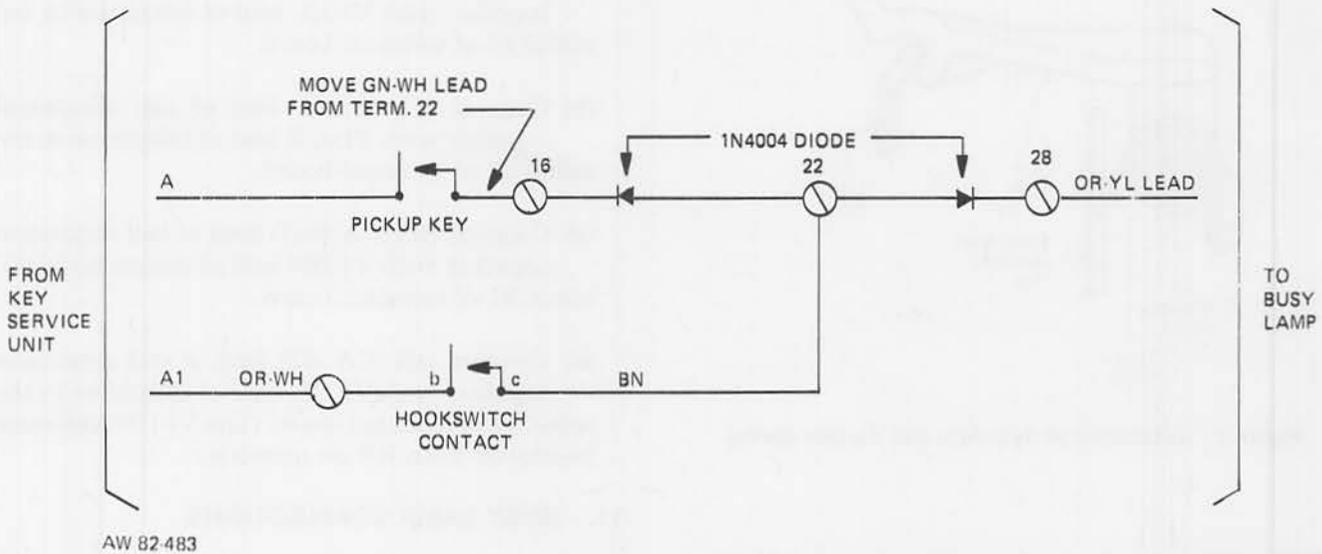

Figure 4: Busy Lamp Connections For 20-Button Telephones with Feature Codes 42 and 46
**11.01** Busy lamp connections may vary depending on the type of key system being used. Modifications for the 20-button desk telephones with feature codes 42 and 46 should be as follows: (Refer to Figure 4.)
- (b) Connect one 1N4004 diode between terminals 22 and 16 on the terminal board, and connect another 1N4004 diode between terminals 22 and 28 on the terminal board as shown in Figure 4.